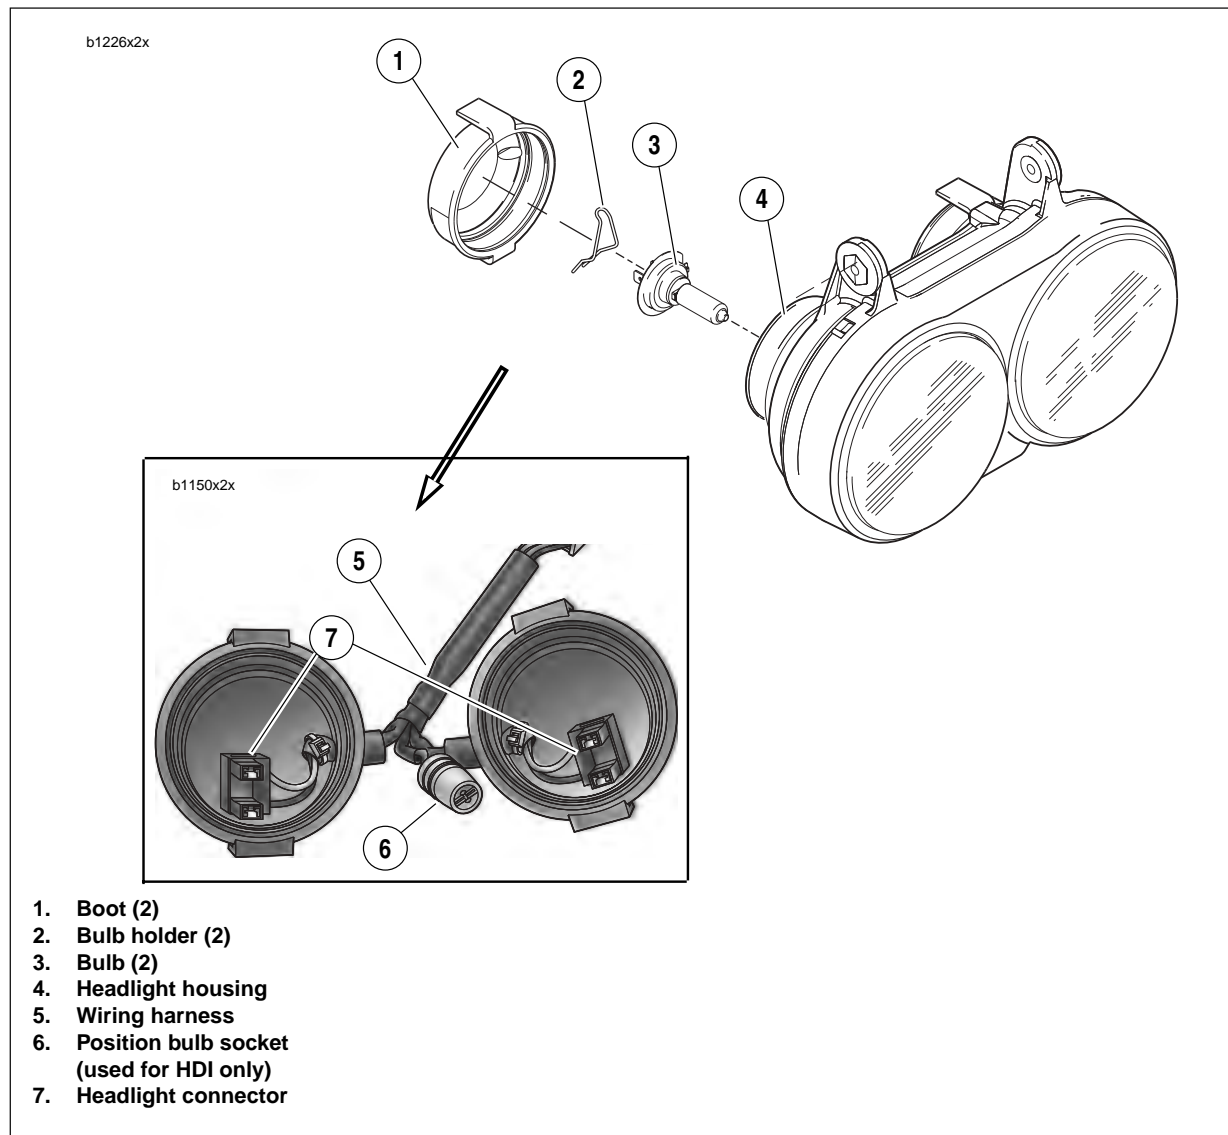

Figure 2-108. Headlight Assembly
1. See Figure 2-108. Remove rubber boots (1) from rear of headlight housing.
2. Disconnect wiring harness (5) from headlight bulbs (3) and remove along with position bulb socket (6).
3. Remove bulb holders (2).
4. Remove headlight bulbs (3) from back of headlight housing (4).
1. See Figure 2-108. Align and install headlight bulbs (3) into back of headlight housing (4).